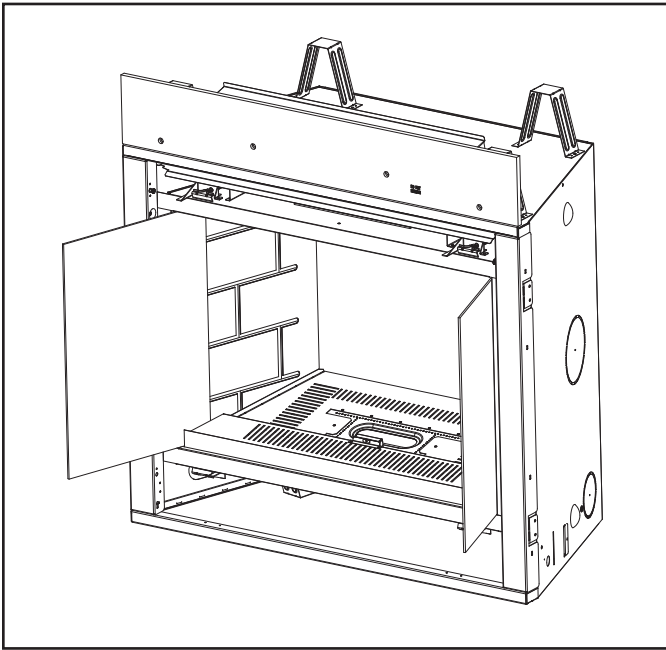

Figure 11.3 Install Side Glass Panels
2. Slide the side glass panels in positions as shown in Figure 11.3. Center the glass retainers and screw using 1 self tapping screw per retainer.